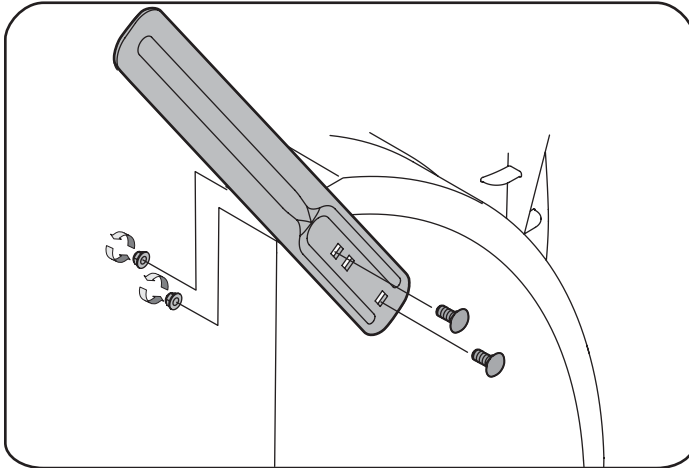

Figure 7
- Remove the carriage bolts by unthreading the hex nuts which secure them, and reinstall the drift cutters facing forward before operating the snow thrower. Refer to Figure 7.